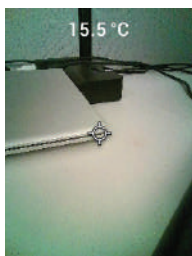

Figure 5.5 Visible Spectrum Digital Camera Image
4. View the image on the display, see **Figure 5-5**. Pull the image capture trigger to save an image. Refer to Section 5.6, *Capturing and Working with Images*, (next) for more information.